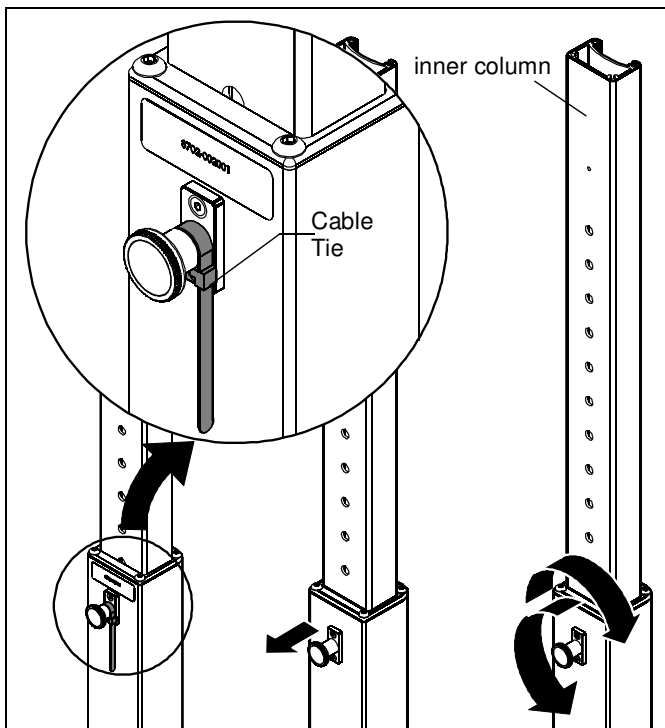

Figure 1
IMPORTANT ! : Press cable tie tab to loosen and remove cable tie from around knob post. (See Figure 1)
1. Lift up slightly on the inner column of center post and hold firmly toward top of post. (See Figure 1)
2. Pull out knob on the center post and turn 90° in either direction to disengage the locking mechanism. (See Figure 1)
3. Raise the inner column and turn the knob 90° in either direction to engage the knob and lock the column in place. (See Figure 1)
1. Follow Steps 1-4 (and Figures 1, 2 and 3) of **Assembling Base for Single Display Stand**.